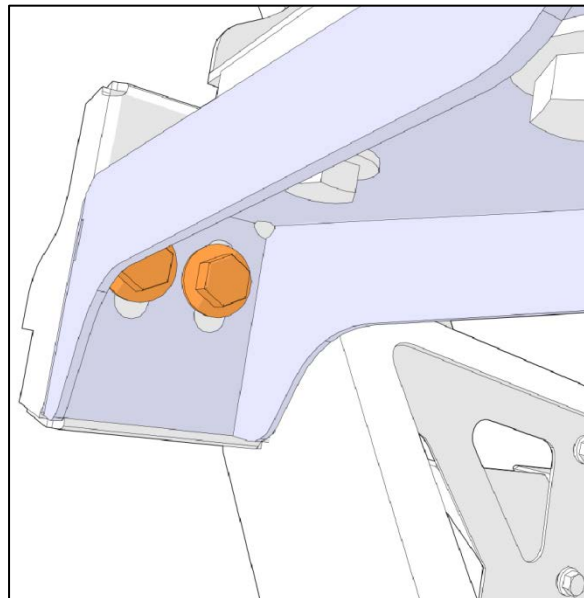

Figure 26
29. Loosen the screw that fixes the SCR support to the vehicle structure (Figure 26). Do not remove the screws.